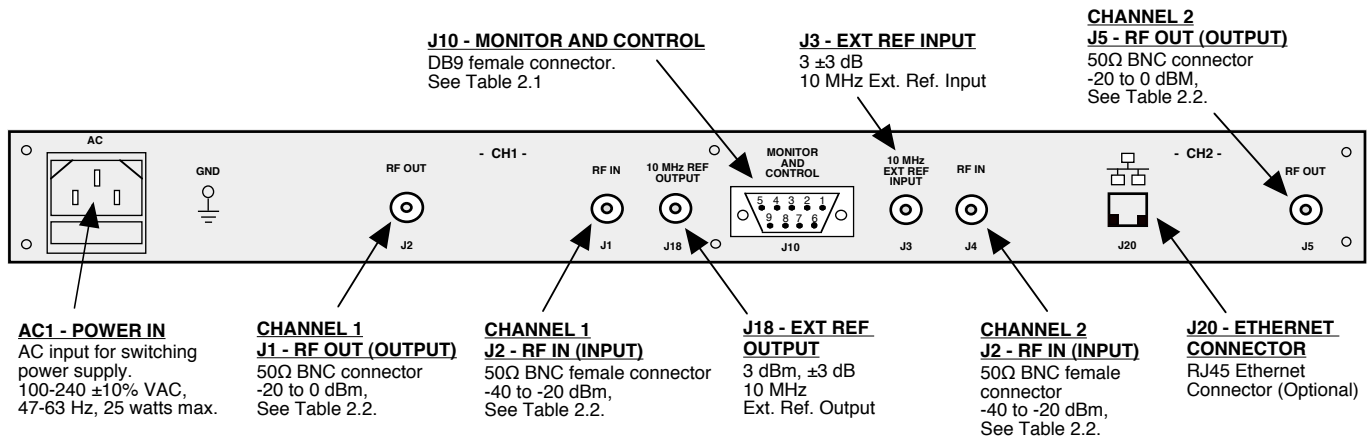

FIGURE 2.1 3116-22-2223# Rear Panel I/O's
Figure 2.1 shows the input and output connectors on the rear panel.
1. Connect a -40 dBm to -20 dBm signal to RF IN CH1, J1 (Figure 2.1).
2. Connect a -40 dBm to -20 dBm signal to RF IN CH2, J4 (Figure 2.1).